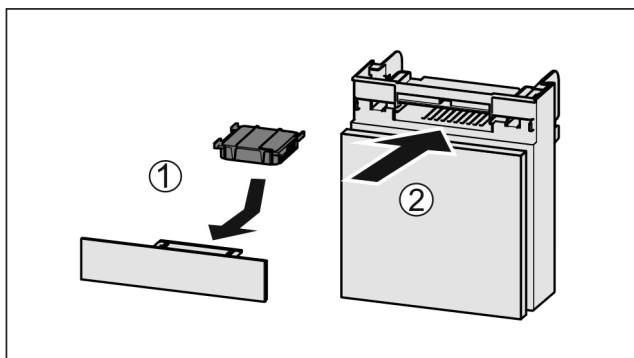

Fig. 50
- ▶ Insert the carbon filter as shown in the diagram Fig. 50 (1).
- ▶ Push the compartment in Fig. 50 (2).